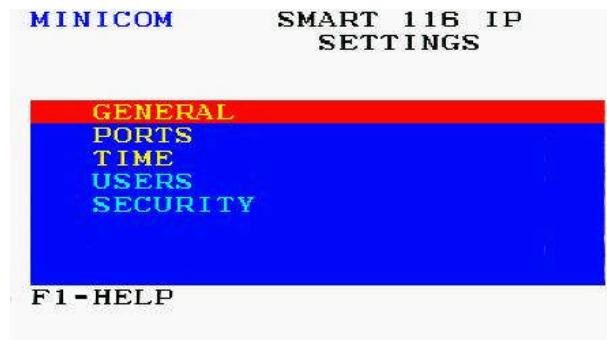

Figure 75 – OSD Settings Window
1. In the OSD Settings window (see Figure 75), navigate to **GENERAL** so that the red line is on it, and press **Enter**.
1. In the OSD Settings window (see Figure 75), navigate to **PORTS** so that the red line is on it, and press **Enter**.
1. In the OSD Settings window (see Figure 75), navigate to **TIME** so that the red line is on it, and press **Enter**.